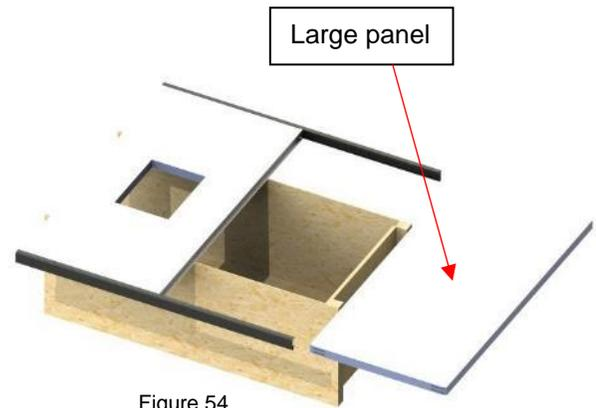

Figure 54
10) Slide the large (approx. 47" x 96" (119 cm x 243 cm)) panel into the C-channels. Ensure the I-beam has slid over the panel on both the bottom and top side (Figure 54).